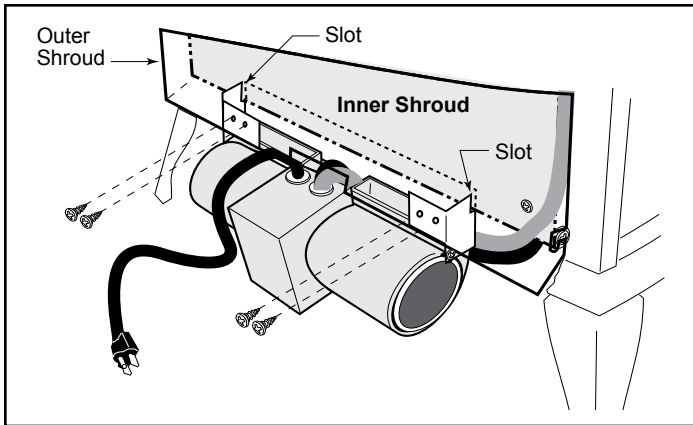

Figure 62 - Position the fan to engage the inner shroud with the fan bracket slots and secure with sheet metal screws.
6. Position the fan assembly so the ducts slide between the inner and outer shroud. The inner shroud should engage with the two slots in the ends of the bracket so the bracket and shroud are interlocked. (Figure 62) Secure the bracket with the four sheet metal screws provided in the finish bag.